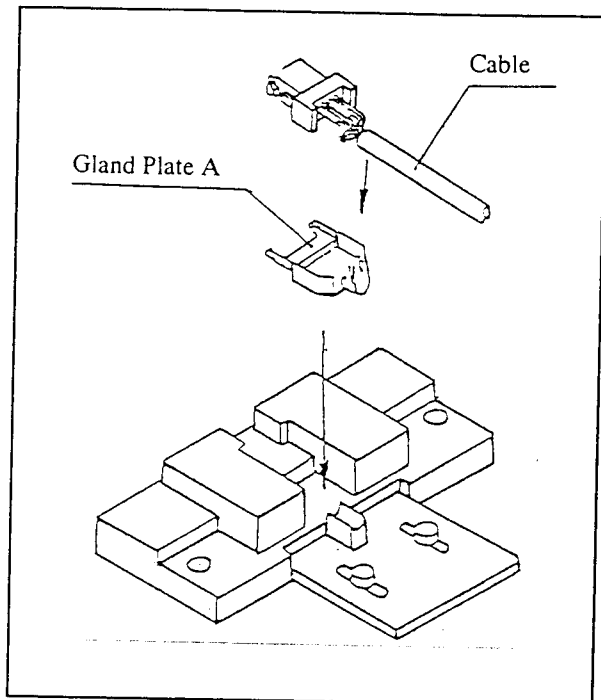

Fig.4
- (1) Before starting the procedures described in this section, be sure to complete Steps No.1 through No.3 in '2-1 Description of Harness Processing.'
- (2) As shown in Fig.4, set Gland Plate A and the soldered cable.
- (3) Lower the handle on Hand Press to clamp the cable.